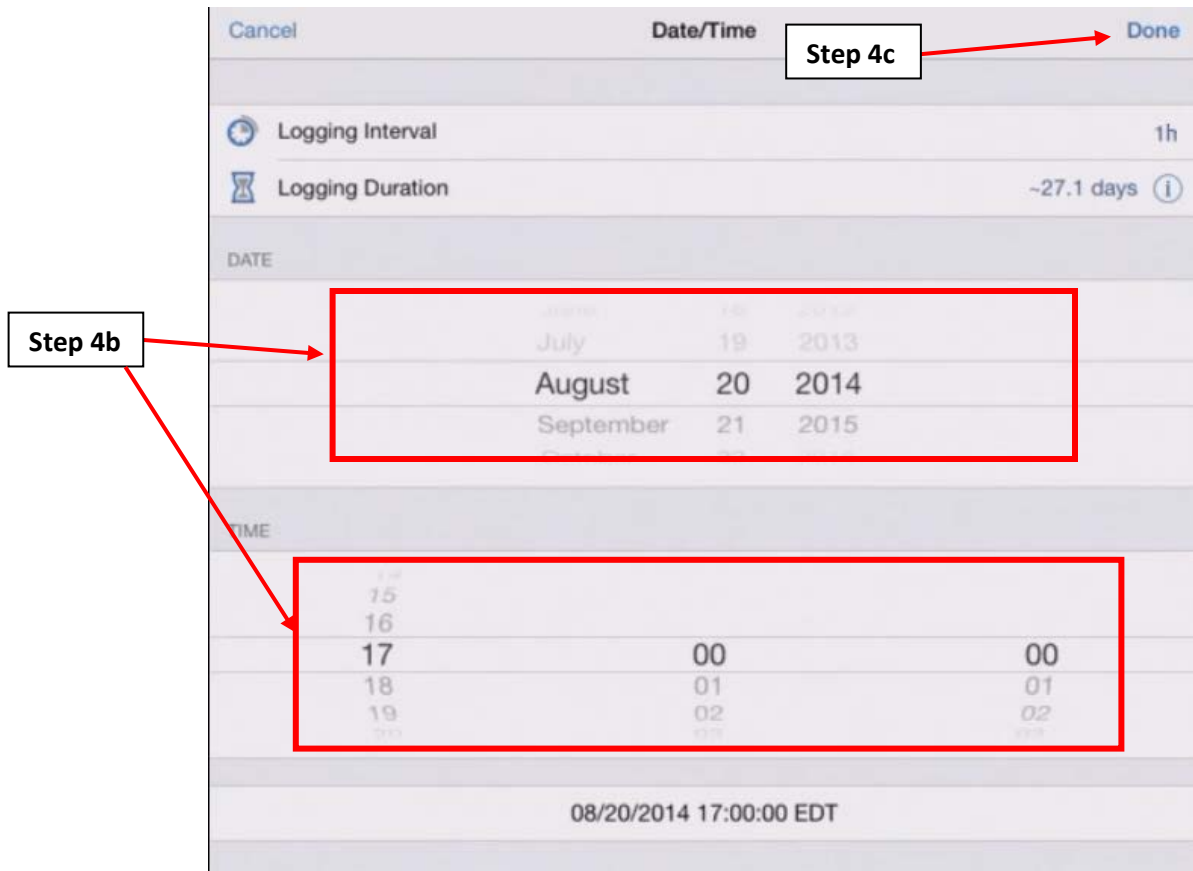

Figure A.7.8: The “Date/Time” screen.
- a. On the “Start Logging” screen, tap the “On Date/Time...” option which will take you to the “Date/Time” screen shown on Figure A.7.8.
- b. On the “Date/Time” screen (Figure A.7.8) Set the date and time for which you would like the MX3201 Data Logger to start collect data.
- c. After setting the start date and time, tap “Done” (Figure A.7.8).